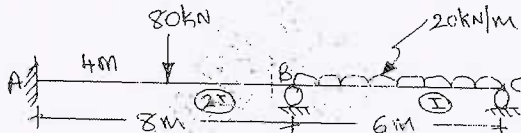

Fig. Q2
- 2 Analyse the continuous beam shown in Fig. Q2 by slope deflection method and draw B.M. diagram. Support B sinks by 1.0 mm and C rises up by 0.5 mm relative to support A. Take $EI = 30000 \text{ kN-m}^2$. (20 Marks)